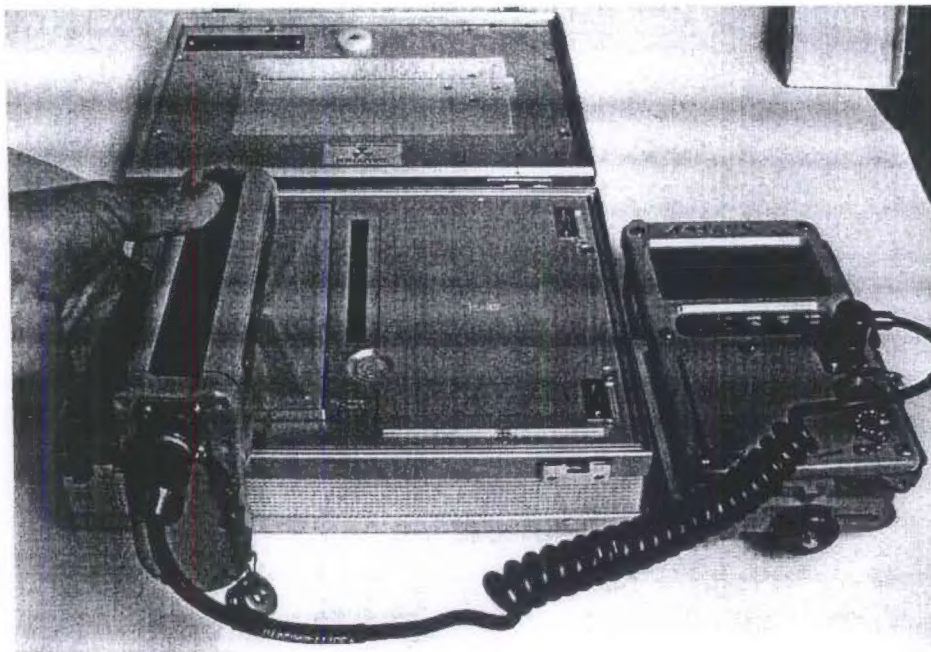

Figure 5. Configuration of DT-681/PDQ during source check.
2.1. SOURCE RESPONSE CHECK FOR DT-681/PDQ. Unlock and open the kit on a level surface in an area with low background radiation. Open the aluminum cover over the Thorium-230 radioactive source. Place the DT-681/PDQ alpha probe in the embossed area over the source (see Figure 5).